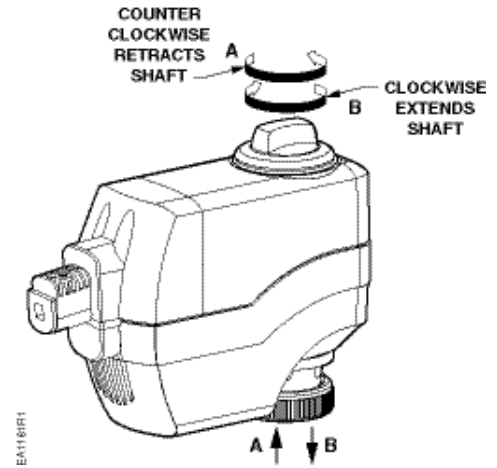
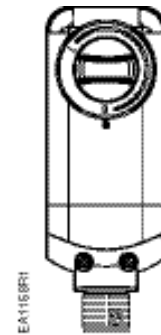

Figure 8. Manual Override.
Figure 9. Position Indicator (Shown in 0 Position).
2. Turn the manual position indicator (See Figure 8 and Figure 9) on the top of the actuator to the 0 position and verify the actuator shaft completely retracts.
For manual positioning, the override knob is in the center of the position indicator. See Figure 8.
Check the wiring and the position indicator (Figure 9).